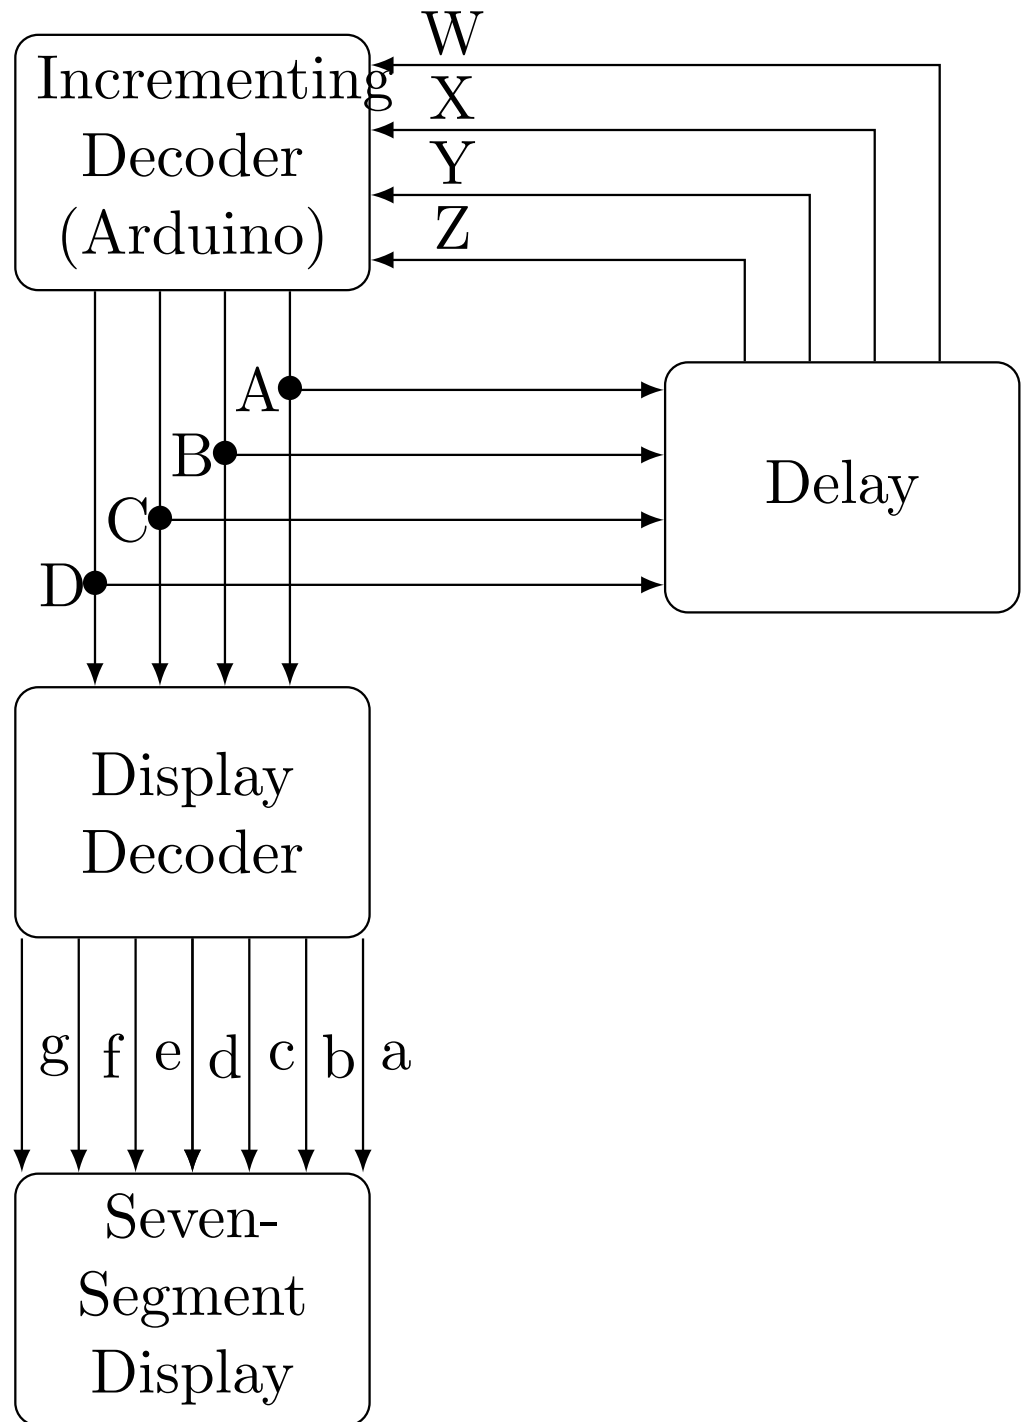
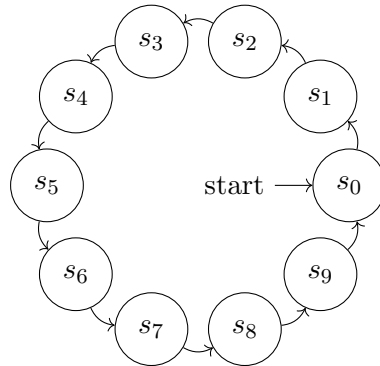
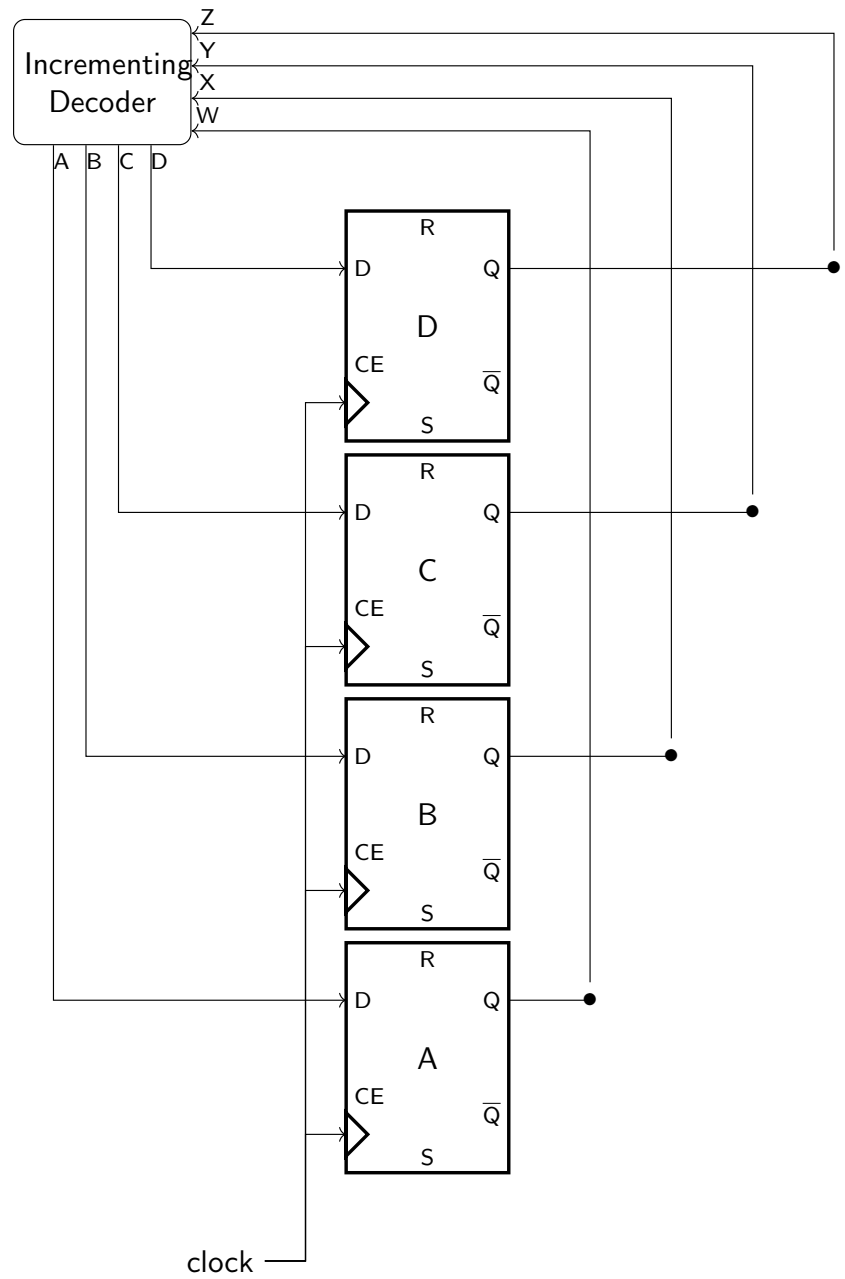

Figure 5.2:
Figure 6.1: FSM for the decade counter
Figure 6.2: Decade counter FSM implementation using D-Flip Flops
2. Connect the Arduino, 7447 and the two 7474 ICs according to Table 5.2 and Fig. 5.2.
3. Realize the decade counter in Fig. 5.2.
The block diagram of a decade counter (repeatedly counts up from 0 to 9) is available in Fig 5.2 The incrementing decoder and display decoder are part of combinational logic, while the delay is part of sequential logic
1. Fig 6.1 shows a finite state machine (FSM) diagram for the decade counter in Fig 5.2 s_0 is the state when the input to the incrementing decoder is 0 The state transition table for the FSM is Table 4.1, where the present state is denoted by the variables W, X, Y, Z and the next state by A, B, C, D .
2. The FSM implementation is available in Fig 6.2 The flip-flops hold the input for the time that is given by the clock This is nothing but the implementation of the Delay block in Fig 5.2
For the FSM in Fig 6.1, the number of states is 10, hence the number flipflops required